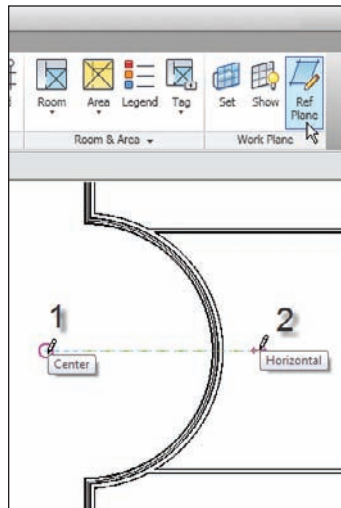

FIGURE 4.7 Establishing a reference plane
3. We are going to add a new reference plane and rotate it by 45 degrees. To do this, in the Home tab click Ref Plane in the Work Plane panel. (See Figure 4.7).
5. For the first point, pick the center point of the radial wall, as shown in Figure 4.7.
6. For the second point, pick a point outside the radial wall (again, see Figure 4.7).
WARNING Be careful when you rotate items in this fashion. Figure 4.7 shows the second point extended past the radial wall, and that is where you generally want it; however, watch out for your snaps. When you pick the second point, be sure to zoom in on the area, ensuring you are not inadvertently snapping to the wrong point.